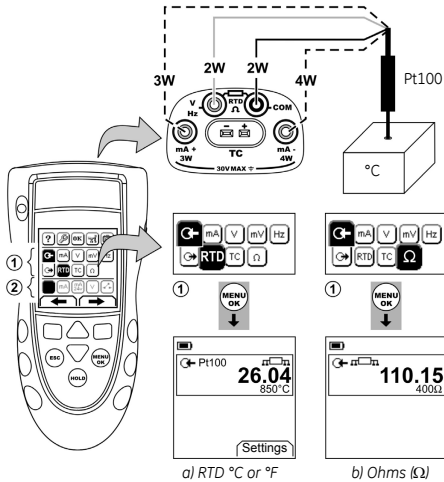

Figure 7: Example configuration - To measure the temperature or resistance
1. Connect the instrument (Figure 7/8) and, if necessary, adjust the *Set Up* (Table 1).